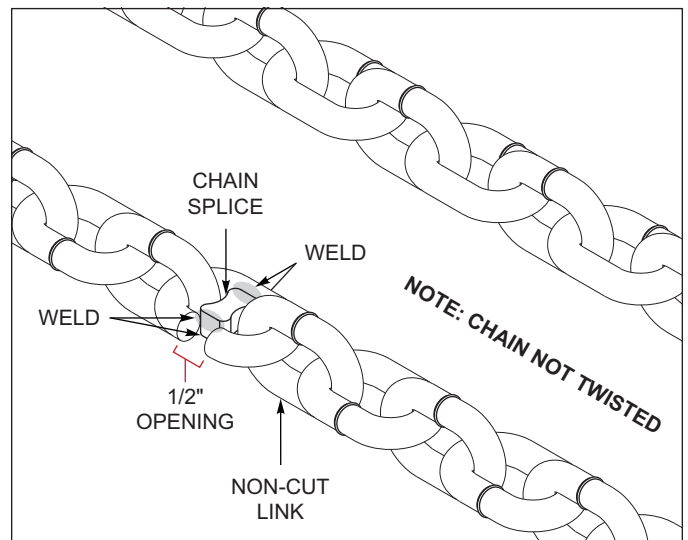

Figure 4-5: Chain Splicing
4. Align the drive chain from the idler pulley assembly back to the gearbox chain sprocket, with horizontal welded links facing out and the vertical welded links facing up, *See Figure 4-5.*
5. Cut a 1/2 inch opening through the welded link side of one of the ends to allow the non-cut end to fit into, *See Figure 4-5.*
6. Assemble the two ends together. **VERIFY** the horizontal welded links are facing out and the vertical welded links are facing up with no twisting before continuing, *See Figure 4-5.*
7. Insert the chain splice into the center of the cut link. Use 100K welding wire or 100K missile rod minimum. Weld the top and bottom of each side and fill in the opening. Use caution not to distort the original dimensions of the link, *See Figure 4-5.*